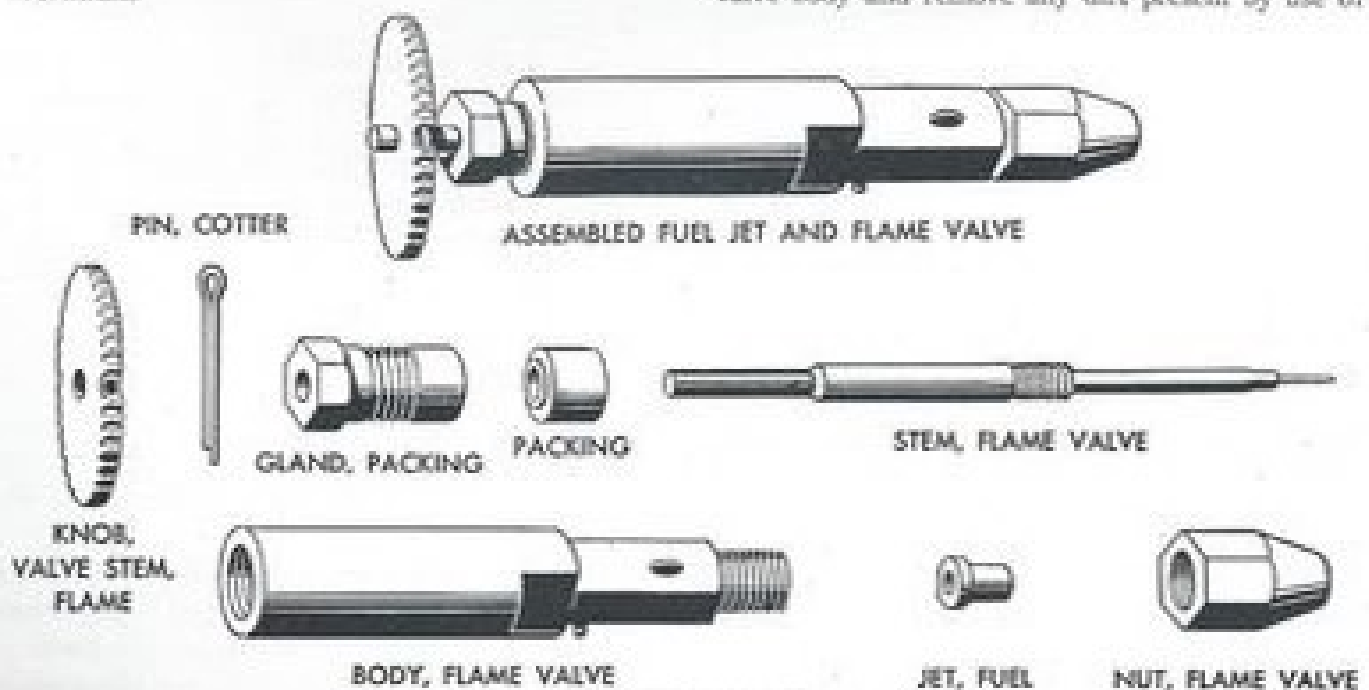

Figure 11. Flame valve.
a. GENERAL. The flame valve (fig. 11) is the valve which fits into the end of the burner mixing chamber. This valve is used to regulate the amount of fuel which is allowed to pass into the mixing chamber of the burner while the burner is in use.
b. REMOVAL. (1) Remove the generator as indicated in paragraph 25.
(2) Move the flame valve forward out of the front panel of the burner.
(3) Take the air shutter off the valve body.
c. INSTALLATION. (1) Place the air shutter on the body of the valve.